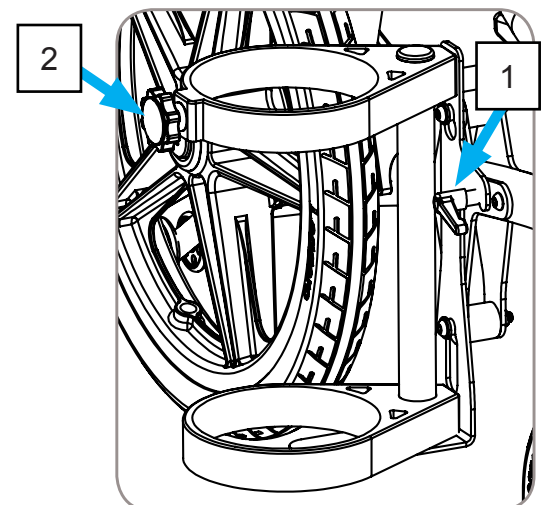

Figure 34
3. Tighten handle **1** to secure. Reference Figure 34.
5. Tighten knob **2**. Reference Figure 34.